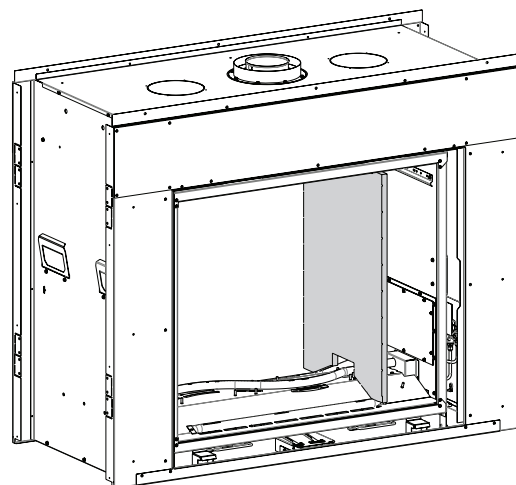

Figure 87
4. Remove right liner panel. **See Figure 87.**